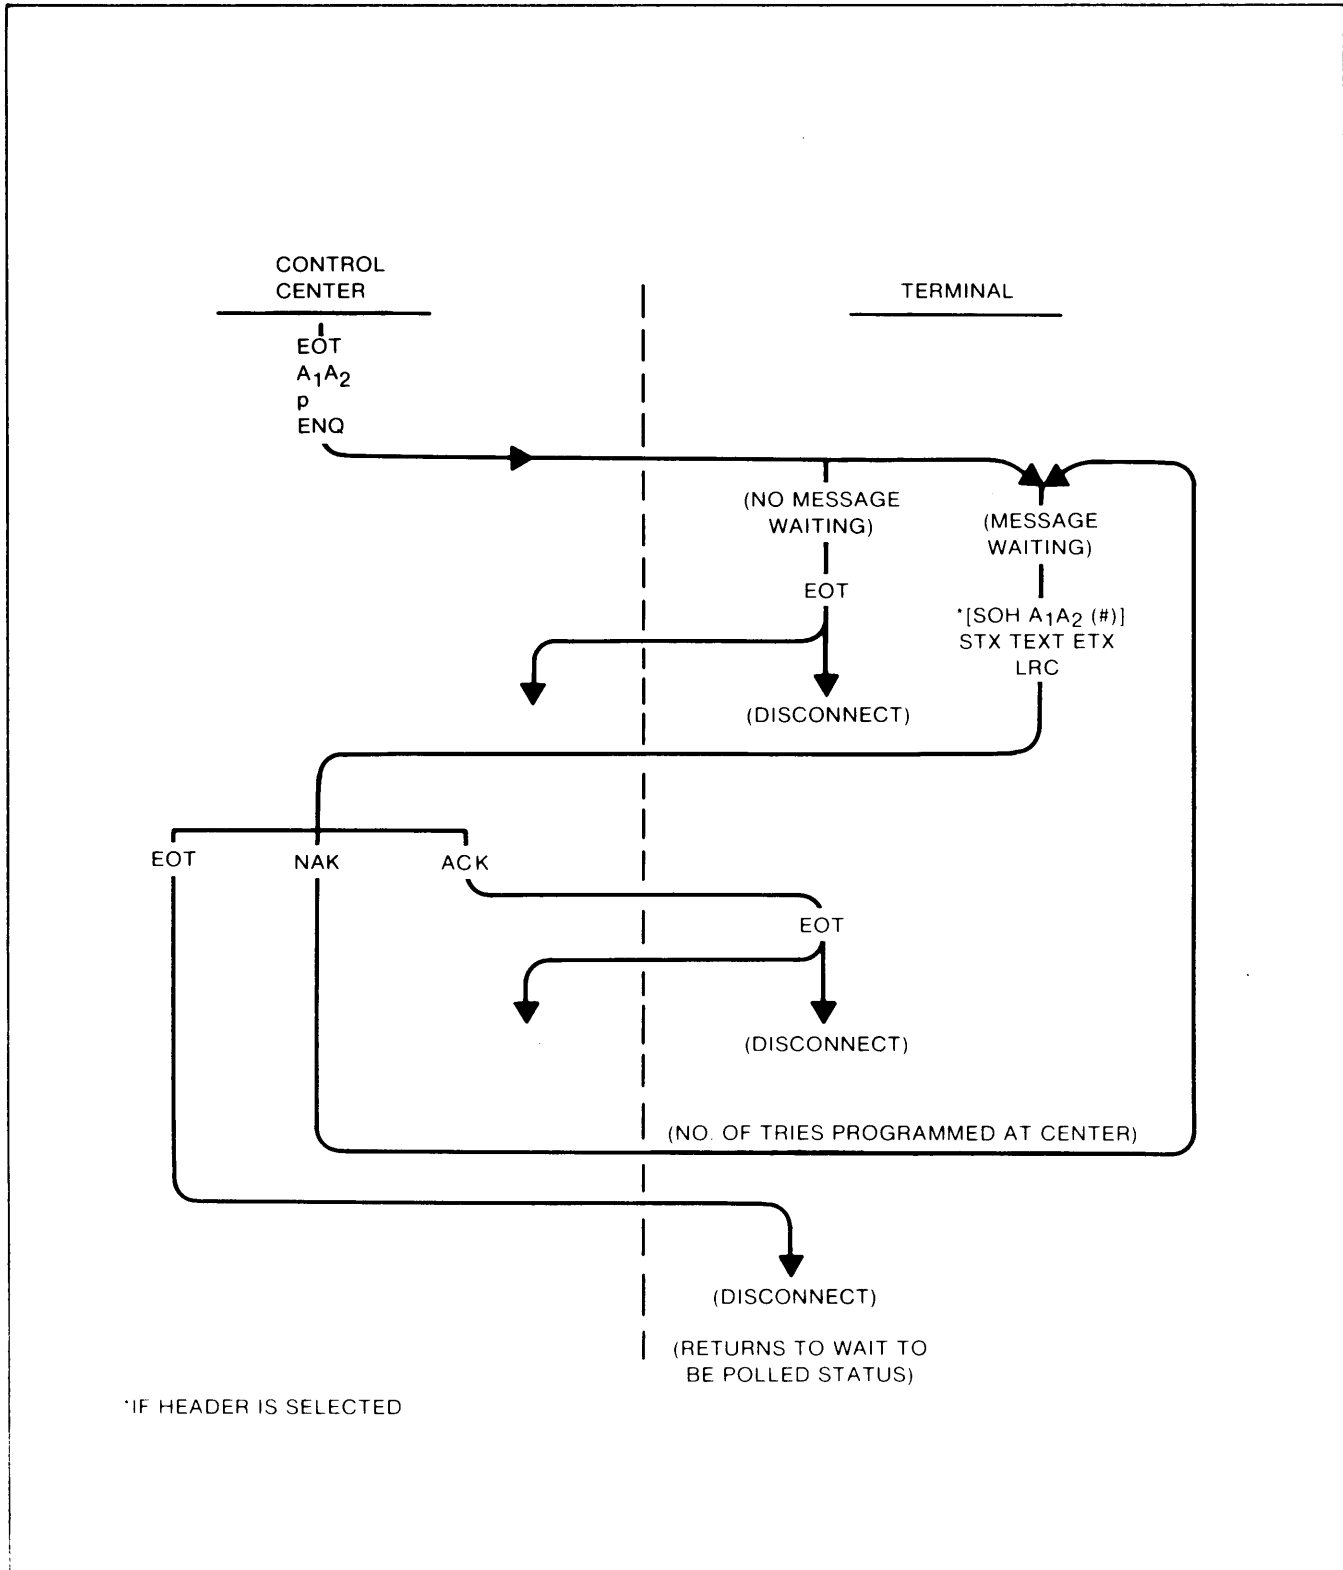

Figure 5-1. POLL Function Dialogue, Flow Diagram
5.1.5 POLL Responses (See Figure 5-1)